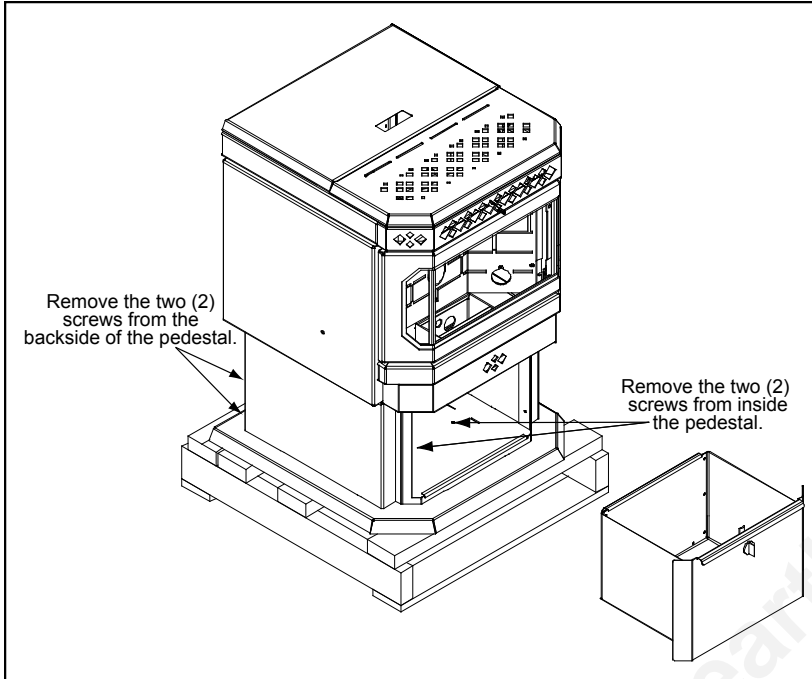

Figure 10: Screws to take out to remove freestanding unit from pallet.
FREESTANDING: To remove your new freestanding stove from its pallet, remove the ash pan and remove the two (2) wood screws inside this area as shown (see Figure 10). Also remove the two (2) wood screws on the back of the pedestal. Remove the unit from the pallet and replace the ash pan.